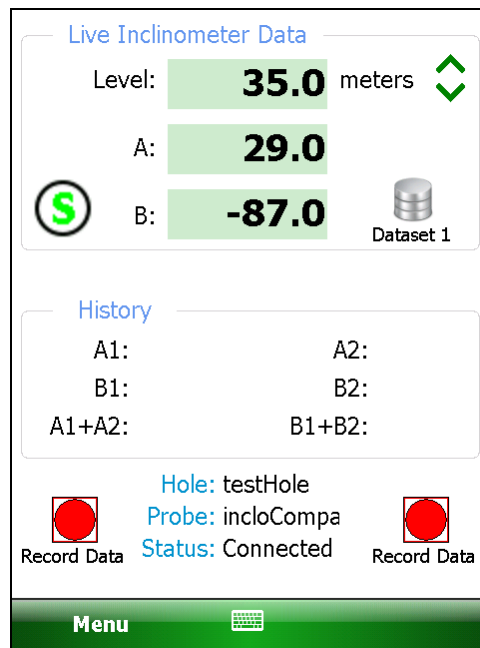

Figure 44 - Stable Indication
- Visual Only** When this stability indication is selected an icon is displayed on the Live Readings Screen, indicating whether the reading is stable or not (see Figures 44 and 45).
- Visual/Audible** When this stability indication is selected, in addition to the icon described above, an audible indication is played indicating readings stability or instability (see Figures 44 and 42, as well as sections 3.3.5.3 and 3.3.5.4).
When taking live readings, if the difference between two subsequent readings of the A **and** B channels are less than or equal to the "Stability Filter" then the reading will be deemed stable and, if enabled, the "Stability Indication" icon (see Figures 44 and 45) will be set accordingly.
If the "Stable Indication" (see section 3.3.5.1) selection is set to "Visual/Audible", this parameter will be enabled and a drop-down list will display the choices of "sounds" that the HHD can make when a stable reading is achieved in the "Live Readings" screen (see Figure 44).
Approximately 2 seconds after the cable marker/ferrule is locked in the cable hold, the system will determine that the readings are again stable and respond by setting the stability icon to its stable state and playing the selected "Stable" sound (see Figure 44). Immediately following the stable sound, the current readings are stored, the record "beep" is heard and the level is decremented by the pre-selected interval.